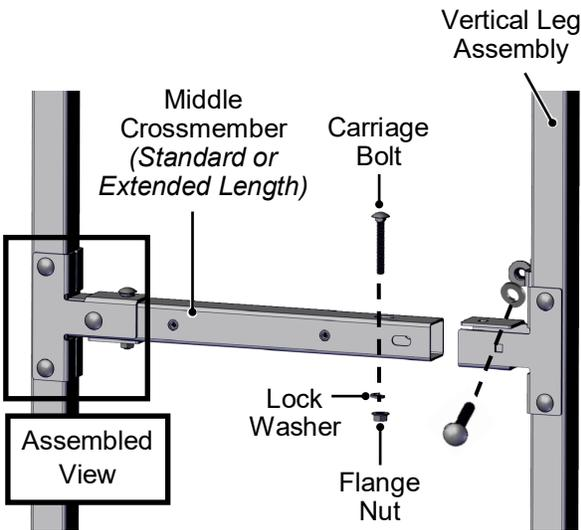

Fig 5. Attach Middle Crossmember to Vertical Leg Assemblies.
- Attach the Middle Crossmember to the Vertical Leg Assemblies with four (4) Carriage Bolts, four (4) Flange Nuts, and four (4) lock washers (Fig 5).